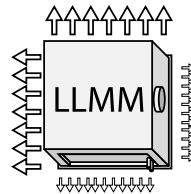
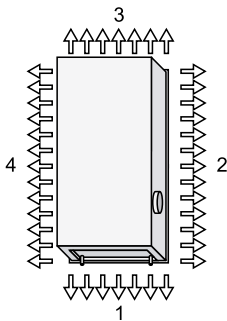

Figure 2. Example of nozzle configuration for a single-module unit - LLMM.
Figure 3. Top view nozzle configuration double-module unit, sides 1-4.
* All four sides of the unit can be adjusted individually. The description of the nozzle setting follows the order shown in figure 3. See example shown in figure 2, p 43.